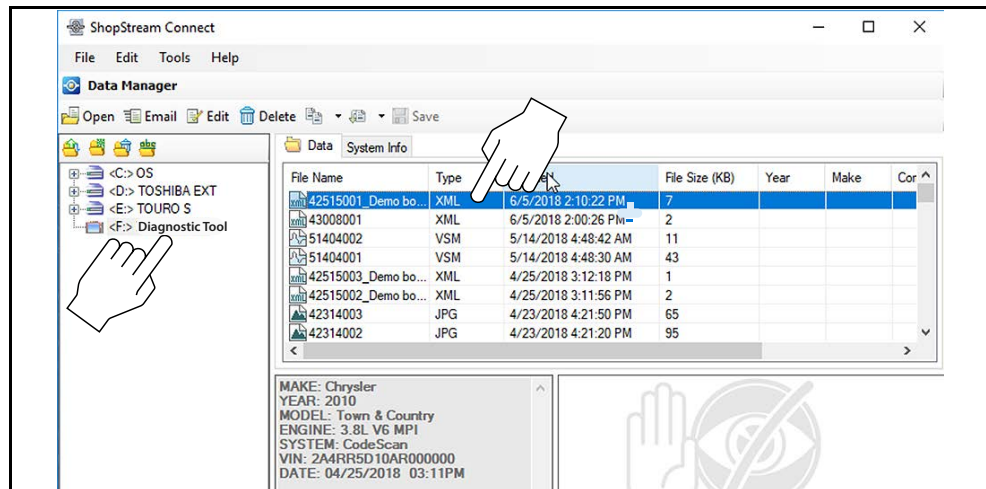
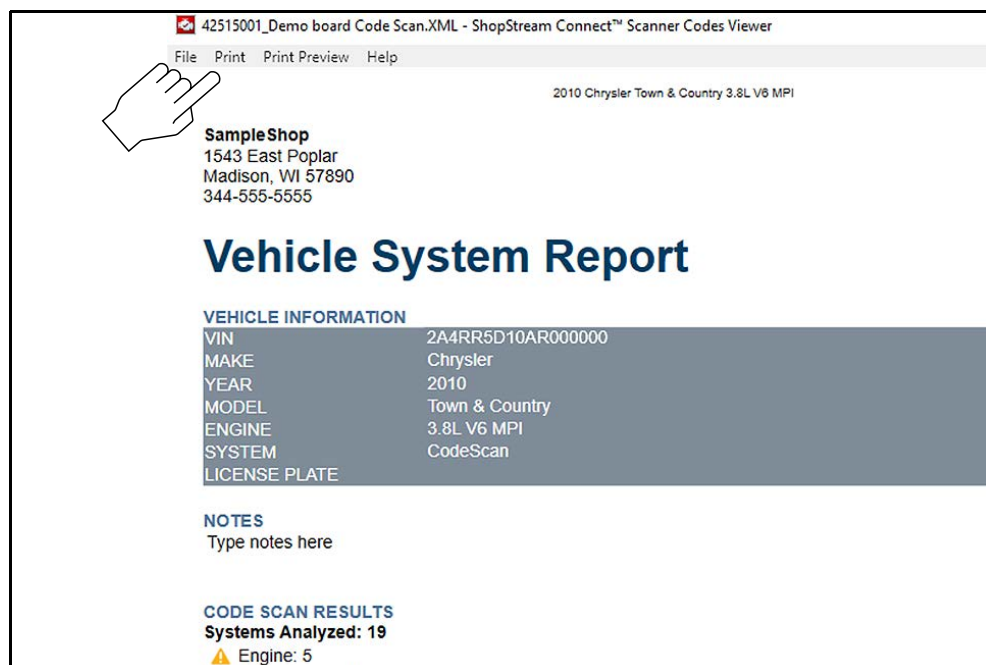

Figure 5-9
Figure 5-10
1. Double-click the code scan .XML file from the file list to open the Vehicle System Report (Figure 5-9) in the Code Scan Viewer (Figure 5-10).
2. Select **Print** or **Print Preview** from the Code Scan Viewer menu to print or preview the Vehicle System Report (Figure 5-10).